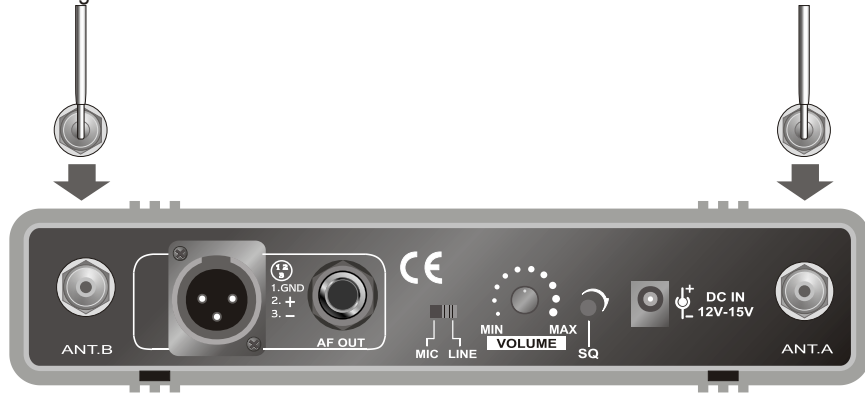

Fig. 3
3.1. Install and tighten the two TNC antennas at the rear panel of the receiver, as shown in fig. 3.